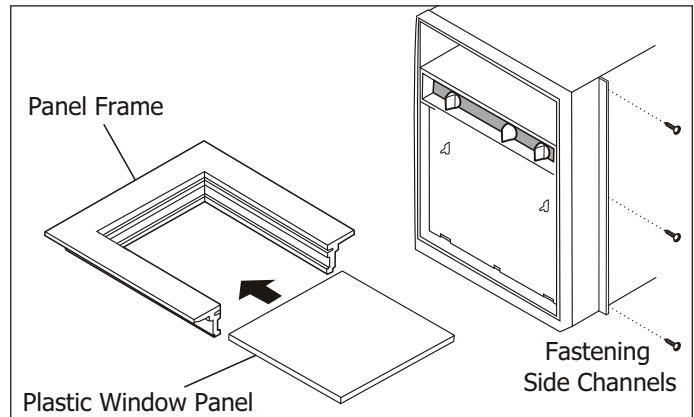

Figure 2-43.
12. Slide plastic window panel into panel frame, with the smooth side to the room. Slide panel frame assembly into side channels of the AC cabinet. Make sure plastic window panel is firmly enclosed on all sides by the retainer grooves. (See Figure 2-43)